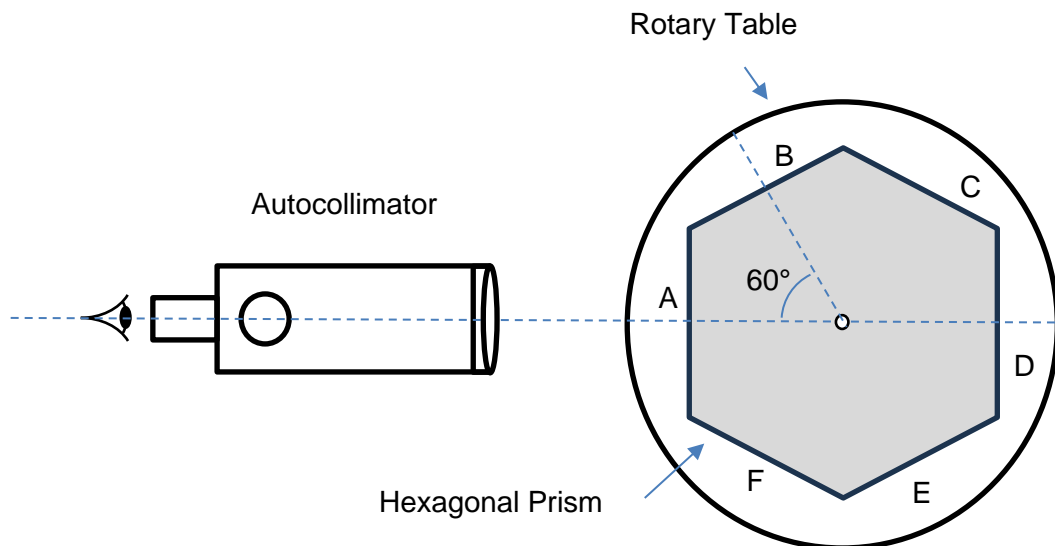

Figure Q2.
2. An autocollimator is used to measure the quality of a rotary table using a precision polygonal mirror as shown in figure Q2.